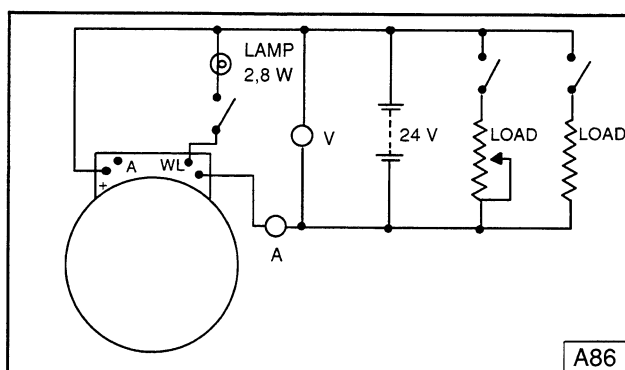

Fig. 5 Test Circuit for AC172R alternator
- (ii) Make the connections as shown in Fig. 5 DO NOT REMOVE ANY CONNECTIONS WHILE THE ALTERNATOR IS RUNNING.